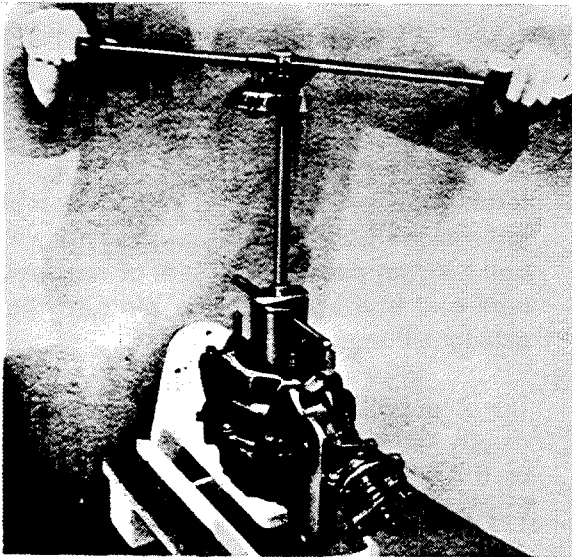

Fig. H 3/52
52. Tighten the two threaded rings for the bevel bearing with a torque wrench and wrench 187 589 02 07 to 8–10 mkg (58–72 ft.lb.) and secure them (Fig. H 3/52).